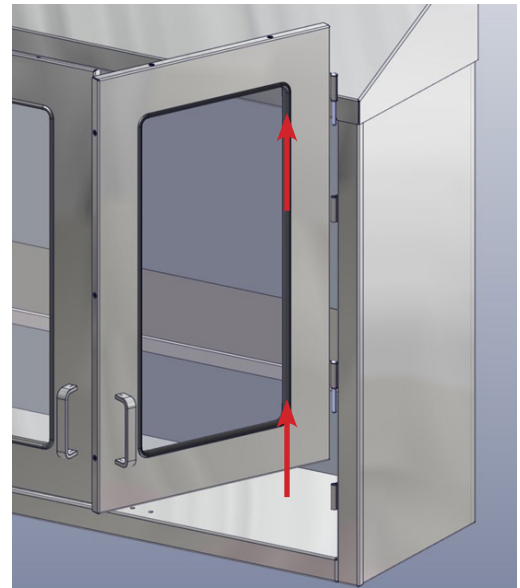

Fig. 17: Remove Doors
1. Remove the cabinet doors if desired for ease of adjustment. Open the doors fully and lift them off of their hinges. The pin on the hinge of the door will slide out of the barrel of the hinge on the cabinet (Fig. 17).